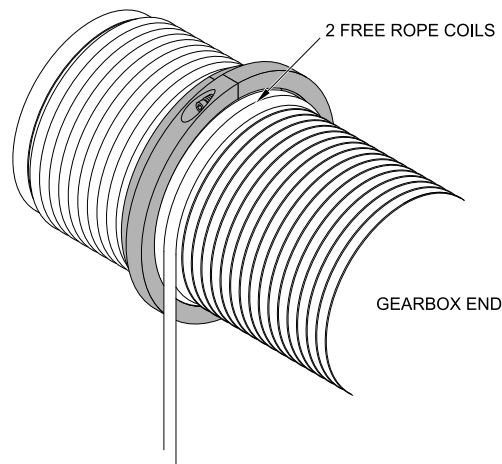

Figure 69 – Rope Guide Inner Band Fitted
- Position the inner band assembly over the rope such that 2 free rope coils remain unclamped and tighten the capscrew on the spring side 1.5Nm (see Figure 69).